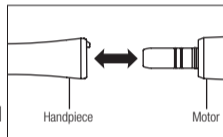

Fig. 1
1) Insert the handpiece direct to the motor (Fig. 1). When connecting an optic handpiece, screw the handpiece until it clicks and locks into position.